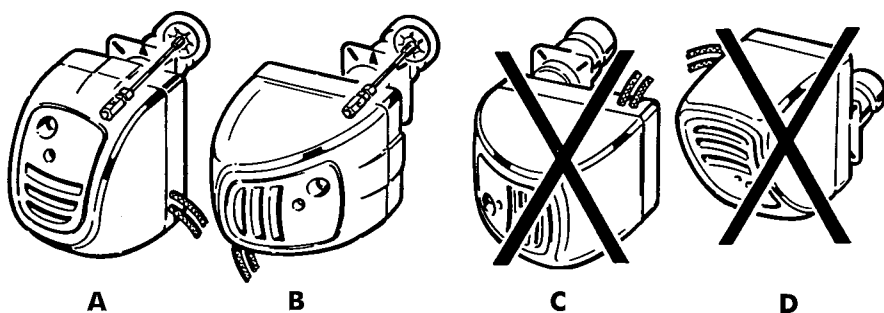

Fig. 11
After preparing the boiler front according to the dimensions of the attachment template (see Fig. 2) it is necessary to fix the burner coupling plate (8) with the two lower screws: make sure you interpose the supplied insulation gasket. Fit the burner on the coupling plate and position it as indicated in Fig. 11 (items A and B).